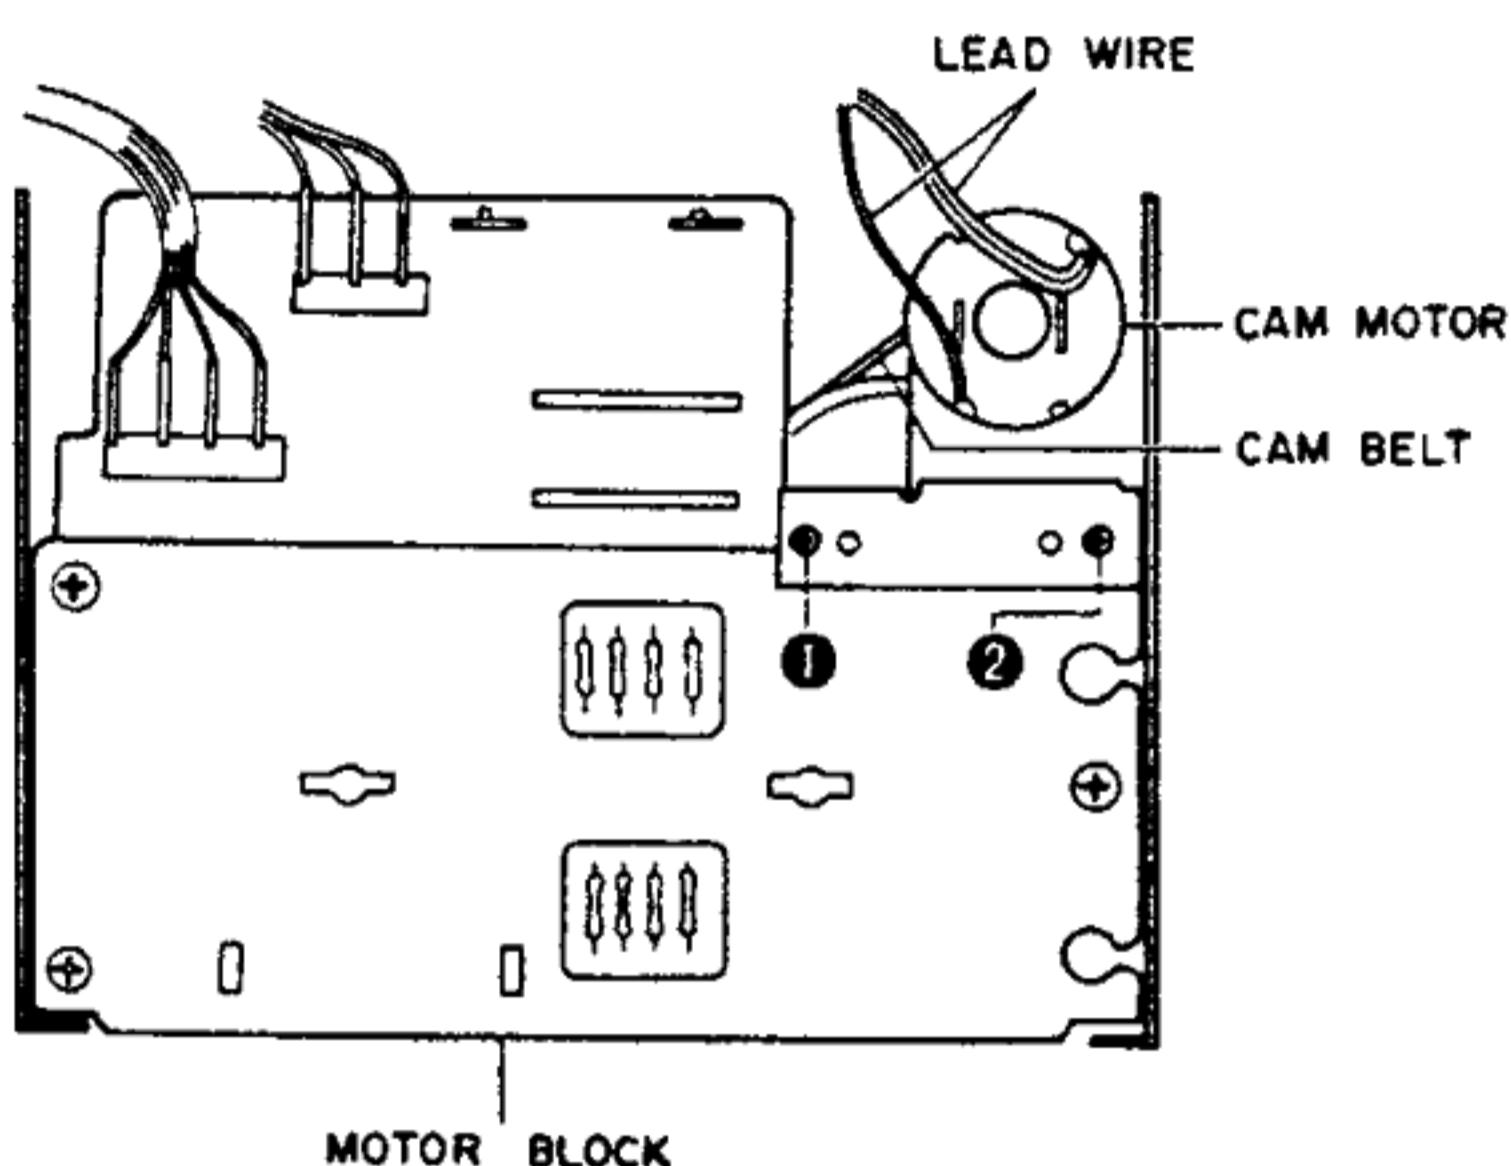

Fig. 3-8
- 3) Remove cam motor base screws ① and ② from the motor block. (Refer to Fig. 3-8.)